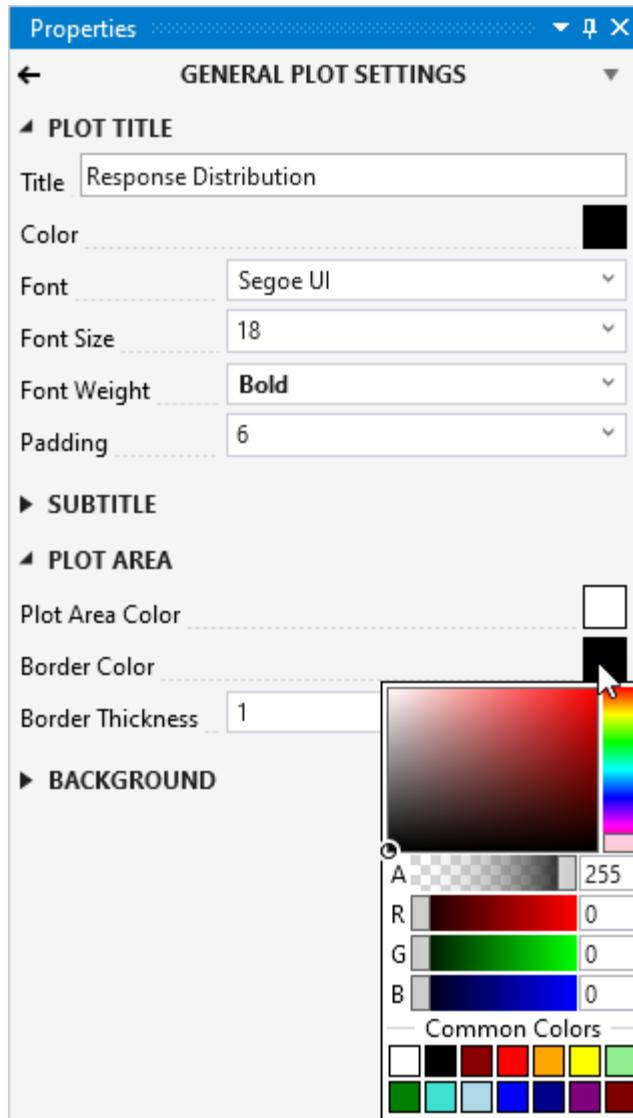

Figure 4.41: Plot properties.
- Edit Plot Properties** to customize the plot's appearance (Figure 4.41). In the Properties window, adjust general plot settings, legends,